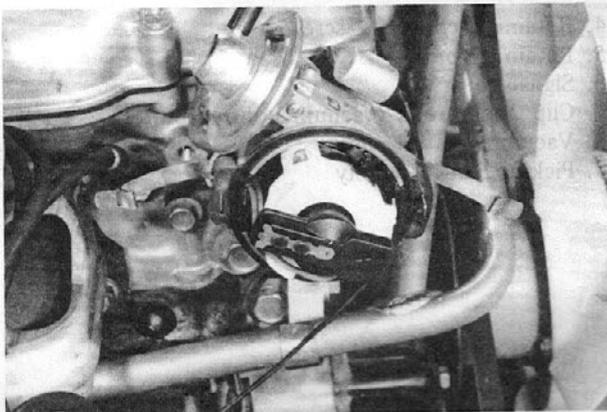
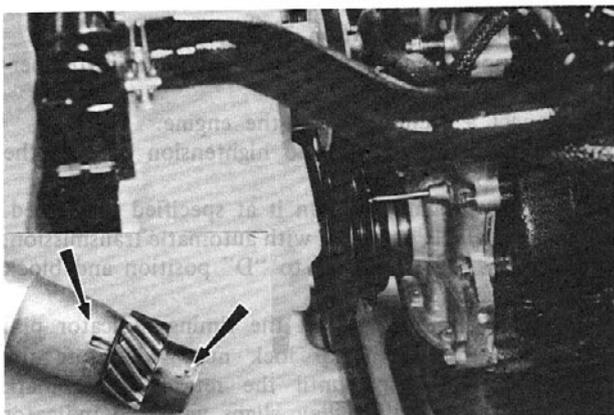

Fig. 5-61
Fig. 5-63
1. When installing the cam, first align the tally marks on the distributor housing and driven gear as shown in Fig. 5-63. Install the rotor onto the cam temporarily and install the cam and rotor onto the governor pin through the drive shaft so that the metal strip end of the rotor positioned, as shown in Fig. 5-61.